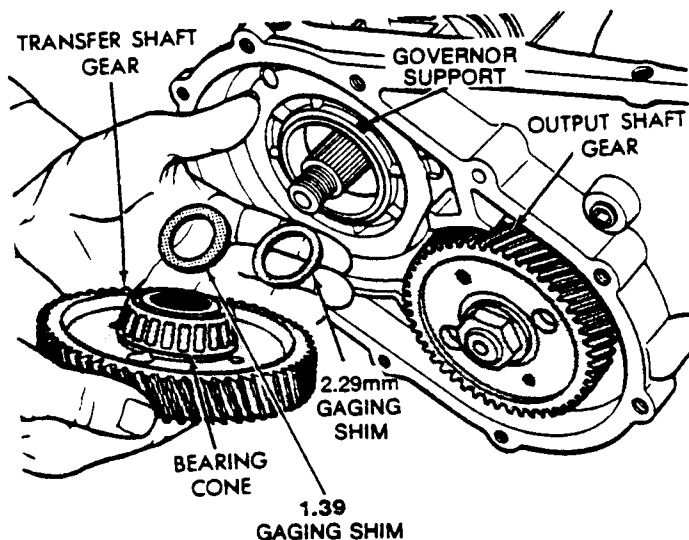

FIGURE 13
2. Install a 2.29 mm (.090 inch) and 1.39 mm (0.055 inch) gaging shims on the transfer shaft behind the governor support, reference Figure 13.